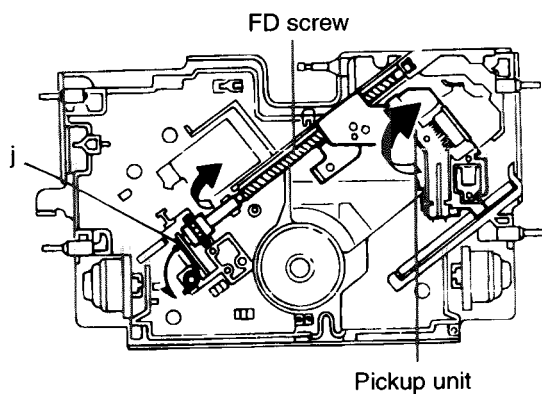

Fig.21
7. While pressing and expanding the spring section holding the FD screw in the arrow direction, remove the FD screw and dismount the pickup unit (See Fig.21).